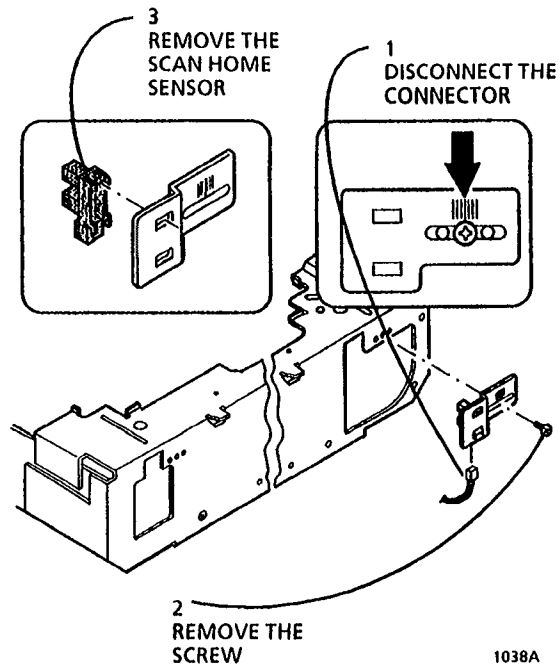

Figure 1. Removing the Scan Home Sensor
3. (Figure 1): Remove the Scan Home Sensor.